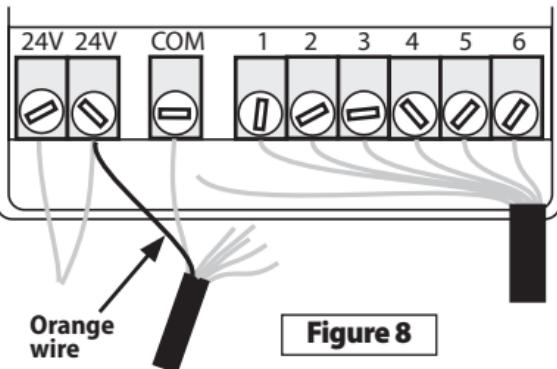

Figure 8
Connect the Black SMRT-Y wire to the common terminal. Disconnect the marked zone wire from its terminal and connect it to the Red SMRT-Y wire. Connect the Green SMRT-Y wire to the terminal from where the zone wire was removed. Connect the Orange SMRT-Y wire to the 24 volt AC 'hot spot' or transformer terminal (see Figure 8).
2. Connect the Orange wire from the SMRT-Y to one of the 24 VAC terminals on your controller. In order to determine which of the 24V terminals to connect the Orange wire to, touch the Orange wire to each of them with the controller powered on (AC adapter plugged in). Use the terminal which activates the SMRT-Y display (see Figure 8).